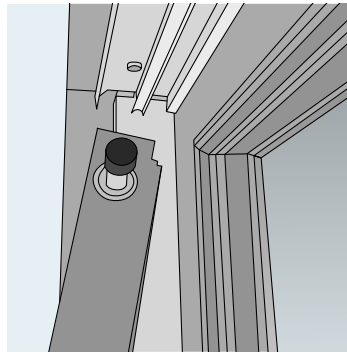

Figure 6
1. a. Starting by placing the aluminium part in the top frame (see figure 6, 7 and 8).